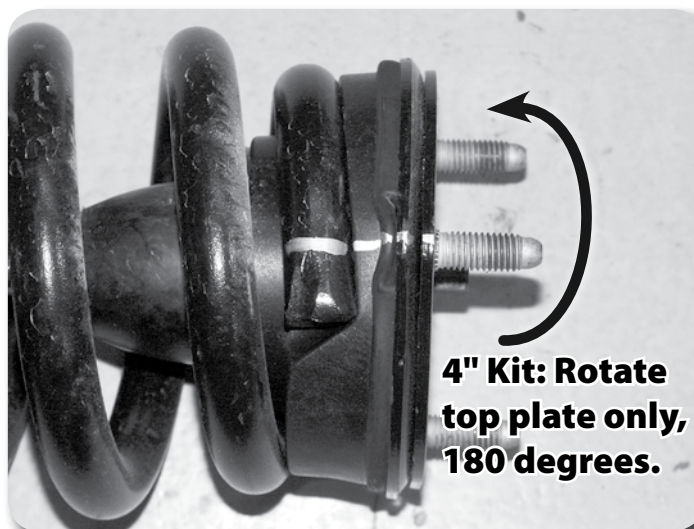

Figure 17
45. **4 inch kits only:** The upper strut mounting plate must be rotated 180 degrees. Make an indexing mark on the coil at the top winding by the stud that faced 'out' on the vehicle. Place the coil in a strut compressor and rotate the top 180 degrees. The stud will still face out on the vehicle when reinstalled. This step rotates the buldge in the coil to give enough clearance. This step is not necessary for the 6 inch kits. **Figure 17**